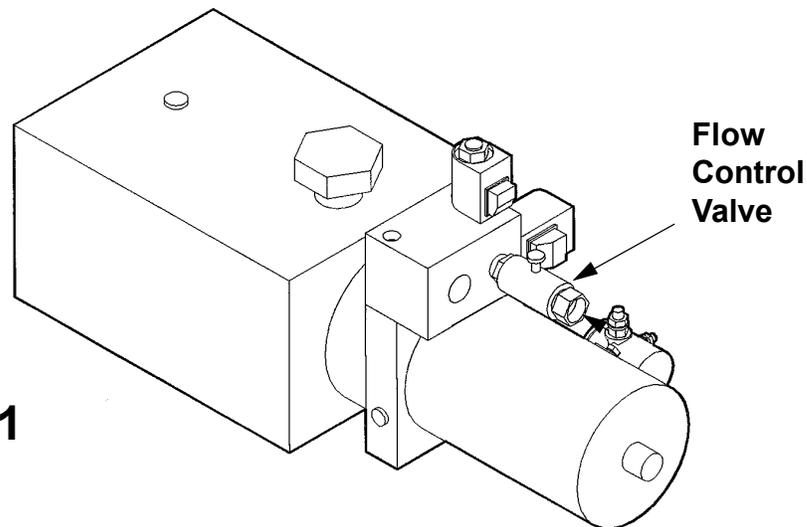

FIGURE 1
1. Verify that power is being supplied to the Solenoid Terminal "A" (Ref. Fig. 1). Recharge the battery if less than 12 volts.